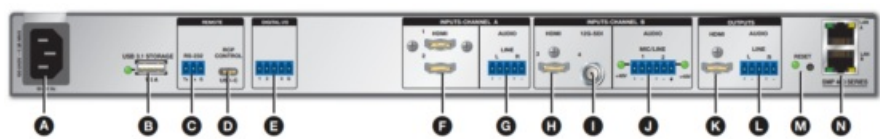

Figure 1. SMP 401 Rear Panel
The SMP 401 can be configured and controlled from the remote port (see figure 1, C) using SIS commands or the front panel USB-C Config port (see figure 5,
C. Remote RS-232 port (figure 1 on page 1) — To control the SMP 401 using Simple Instruction Set (SIS™) commands over RS-232, connect the host RS-232 cable to the rear panel (see the image at right) using a 3.5 mm, 3-pole captive screw connector for bidirectional (± 5 V) serial host control. The default protocol for this port is 9600 baud, no parity, 8 data bits, 1 stop bit, and no flow control (handshaking).
K. I/O display LEDs — A stack of four green LEDs that correspond to the four digital I/O connections on the rear panel (see figure 1 on page 1). Each LED indicates the On or Off status of the corresponding ports, which can be configured as digital input or digital output from the DIOC FlexOS App.